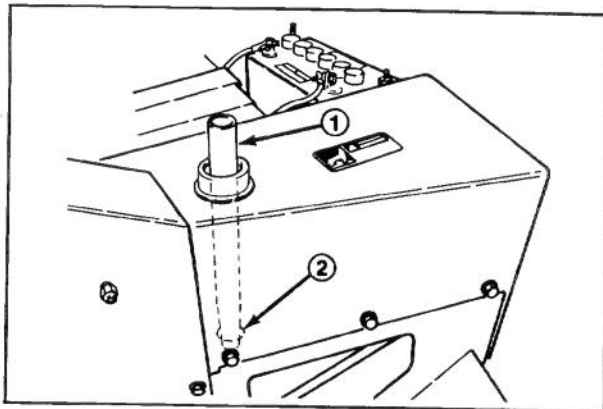

Figure 38
2. If only the filter is to be changed, remove reservoir cap and insert reservoir plug (Fig. 38), to block